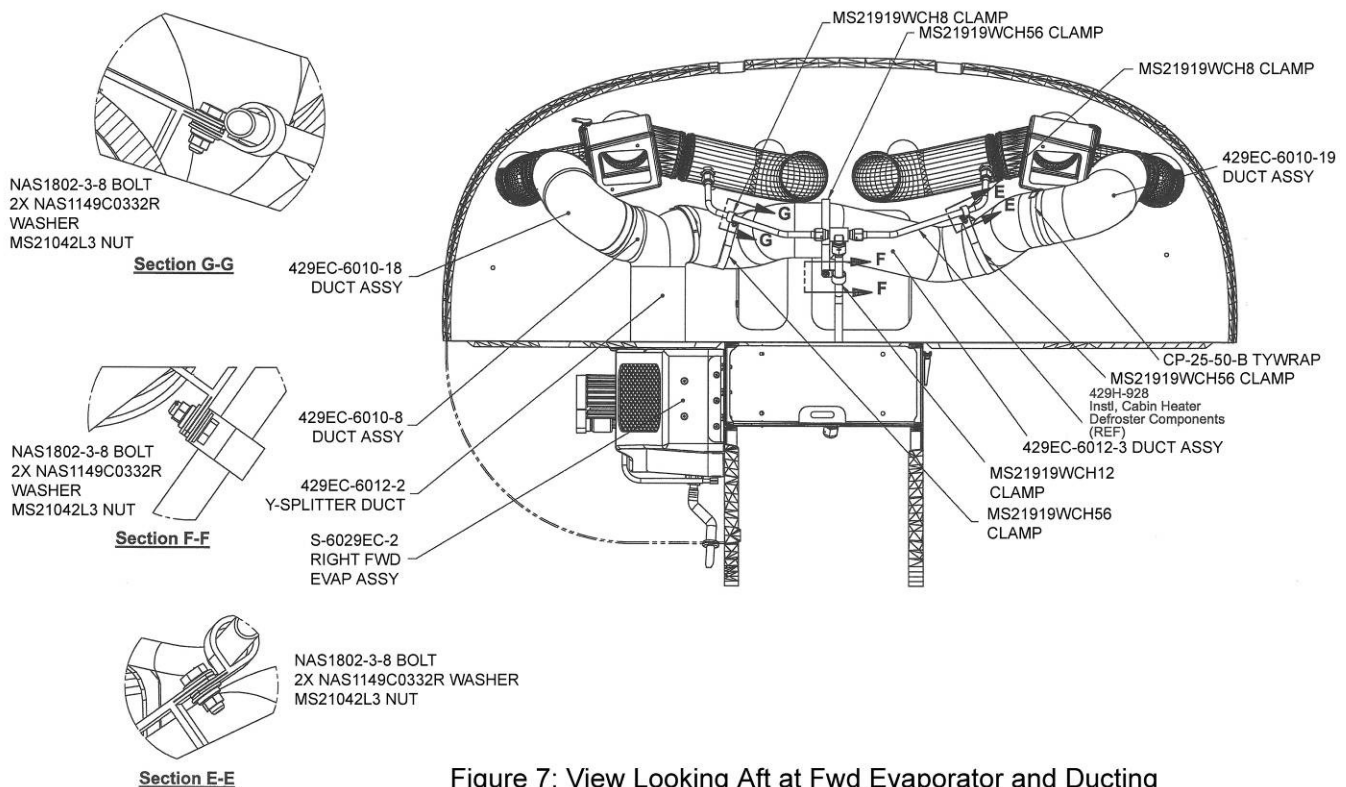

Figure 7: View Looking Aft at Fwd Evaporator and Ducting
7. Install 429EC-6012-2 Y-Splitter Duct to the S-6029EC-2 Evaporator and the existing 429EC-6010-8 RH Flexible Duct, see Figure 7.
8. Install 429EC-6012-3 Flexible Crossover Duct to the 429EC-6012-2 Y-Splitter Duct and the existing 429EC-6010-19 Elbow Assy, see Figure 7.
9. Secure 429EC-6012-3 Flexible Crossover Ducts with associated clamps and hardware as shown in Figure 7.